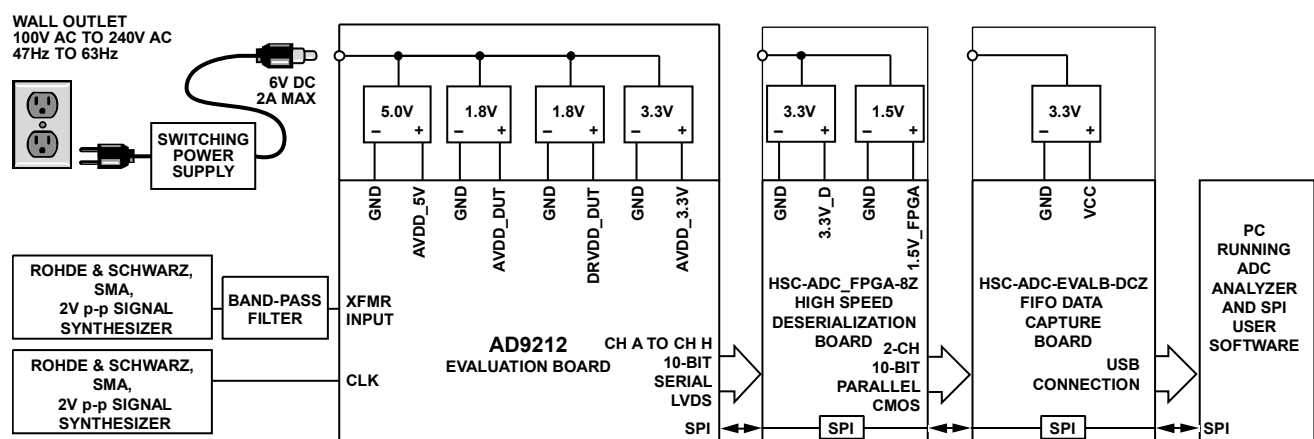
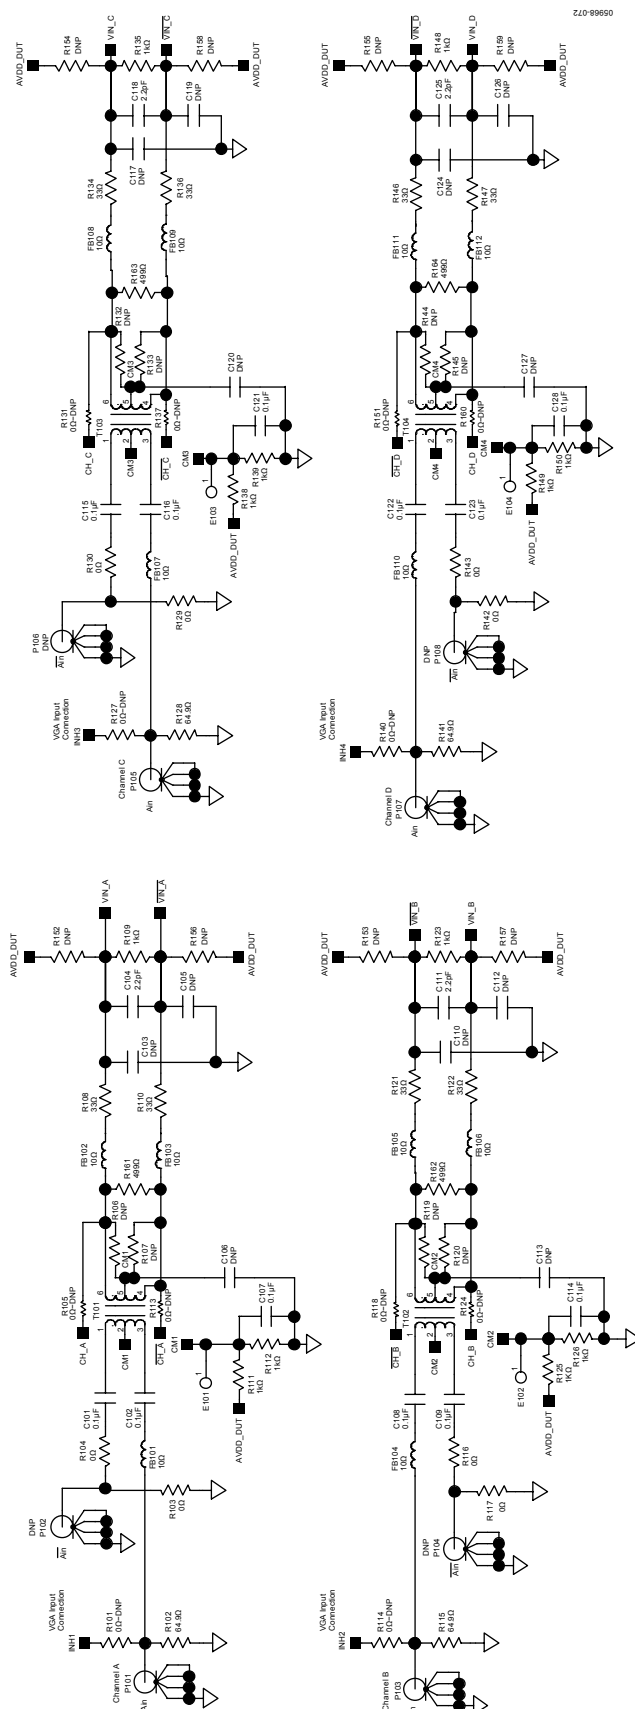

Figure 70. Evaluation Board Connection
Figure 74. Evaluation Board Schematic, DUT Analog Inputs
The AD9212 evaluation board provides all the support circuitry required to operate the ADC in its various modes and configurations. The converter can be driven differentially by using a transformer (default) or an AD8334 driver. The ADC can also be driven in a single-ended fashion. Separate power pins are provided to isolate the DUT from the drive circuitry of the AD8334. Each input configuration can be selected by changing the connections of various jumpers (see Figure 74 to Figure 78). Figure 70 shows the typical bench characterization setup used to evaluate the ac performance of the AD9212. It is critical that the signal sources used for the analog input and clock have very low phase noise (<1 ps rms jitter) to realize the optimum performance of the converter. Proper filtering of the analog input signal to remove harmonics and lower the integrated or broadband noise at the input is also necessary to achieve the specified noise performance.
See Figure 74 to Figure 84 for the complete schematics and layout diagrams demonstrating the routing and grounding techniques that should be applied at the system level.
- **D + x, D - x:** If an alternative data capture method to the setup shown in Figure 74 is used, optional receiver terminations, R318 and R320 to R328, can be installed next to the high speed backplane connector.